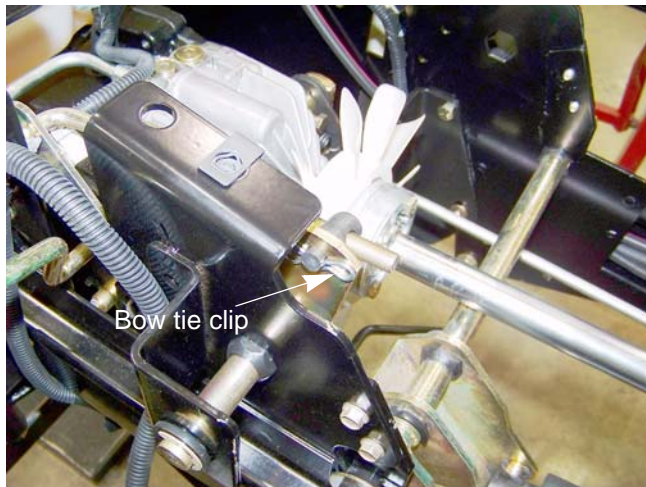

Figure 8.38
5. Disconnect the deck height lever link from the latch by removing the bowtie clip from the ferrule. See Figure 8.38.